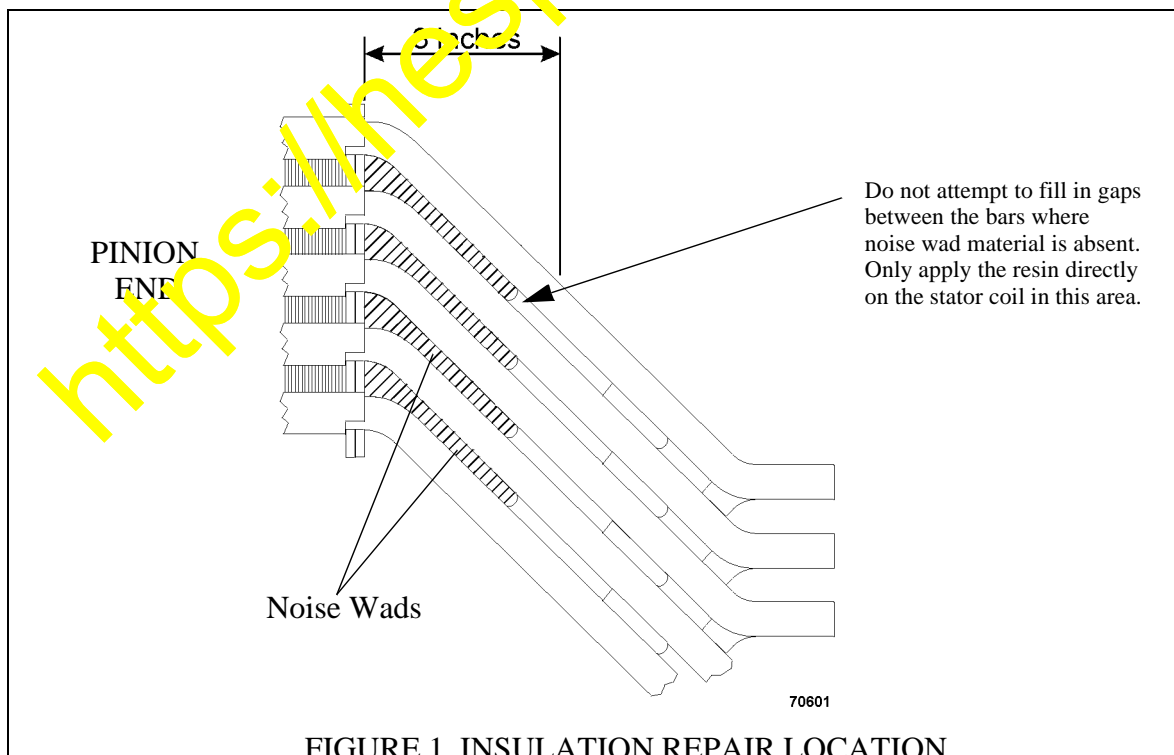
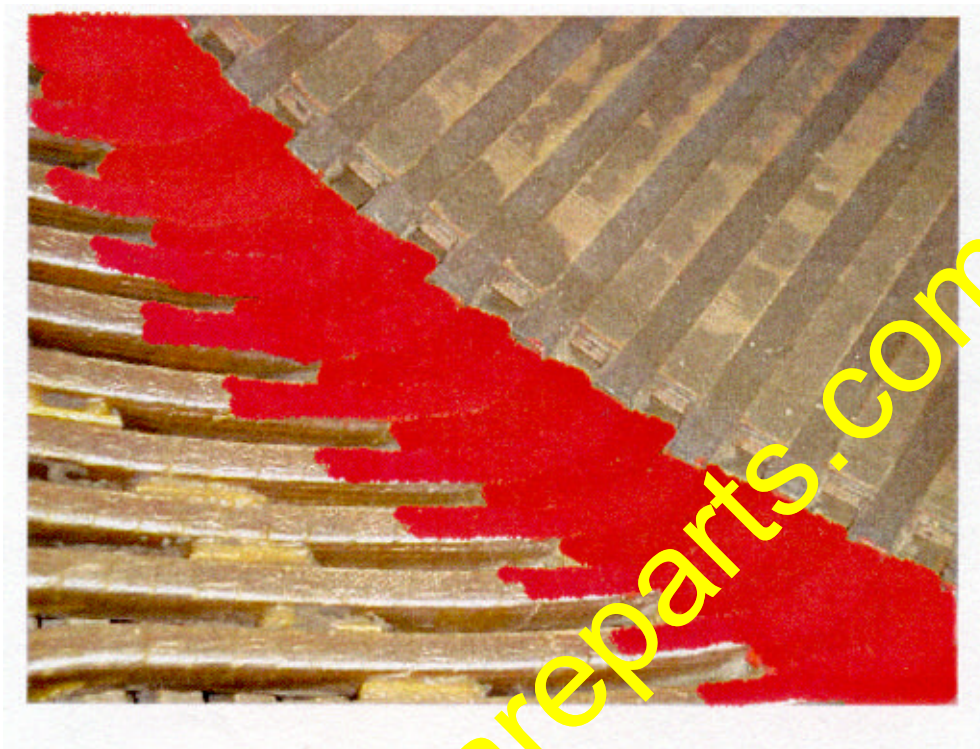

FIGURE 1. INSULATION REPAIR LOCATION
FIGURE 2. APPLICATION OF RESIN
6. Mix the resin according to instructions. Apply an even coat of resin to the rotor side of the stator coils and the felt noise wads. The application of resin coating should extend approximately 3 in. (76.2 mm) from the end of the stator. Refer to Figure 1. The resin application should be a minimum of 0.080 in. (2.03 mm) thick. Ensure all exposed copper in the stator coil is coated with epoxy as shown in Figure 2.
The 3 in. (76.2 mm) resin application dimension shown in Figure 1 extends past the noise wad material. When applying resin to this area, do not attempt to fill the gaps between the coils. Only apply the resin directly on the surface of the coils.